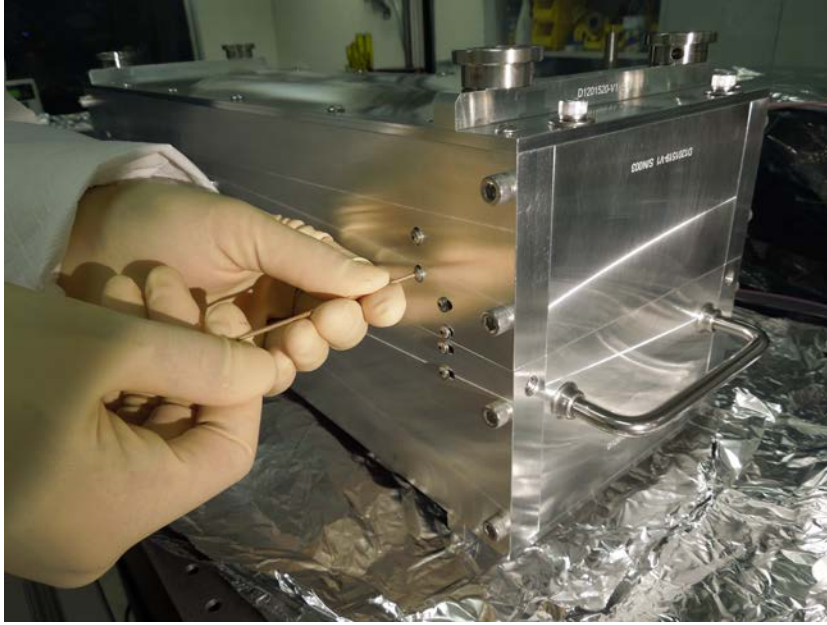

Figure 6. Button head screws
7. Snug Tighten the 24 little button head screws which hold the PEEK blocks in place inside the fixture. See Figure 6 below.